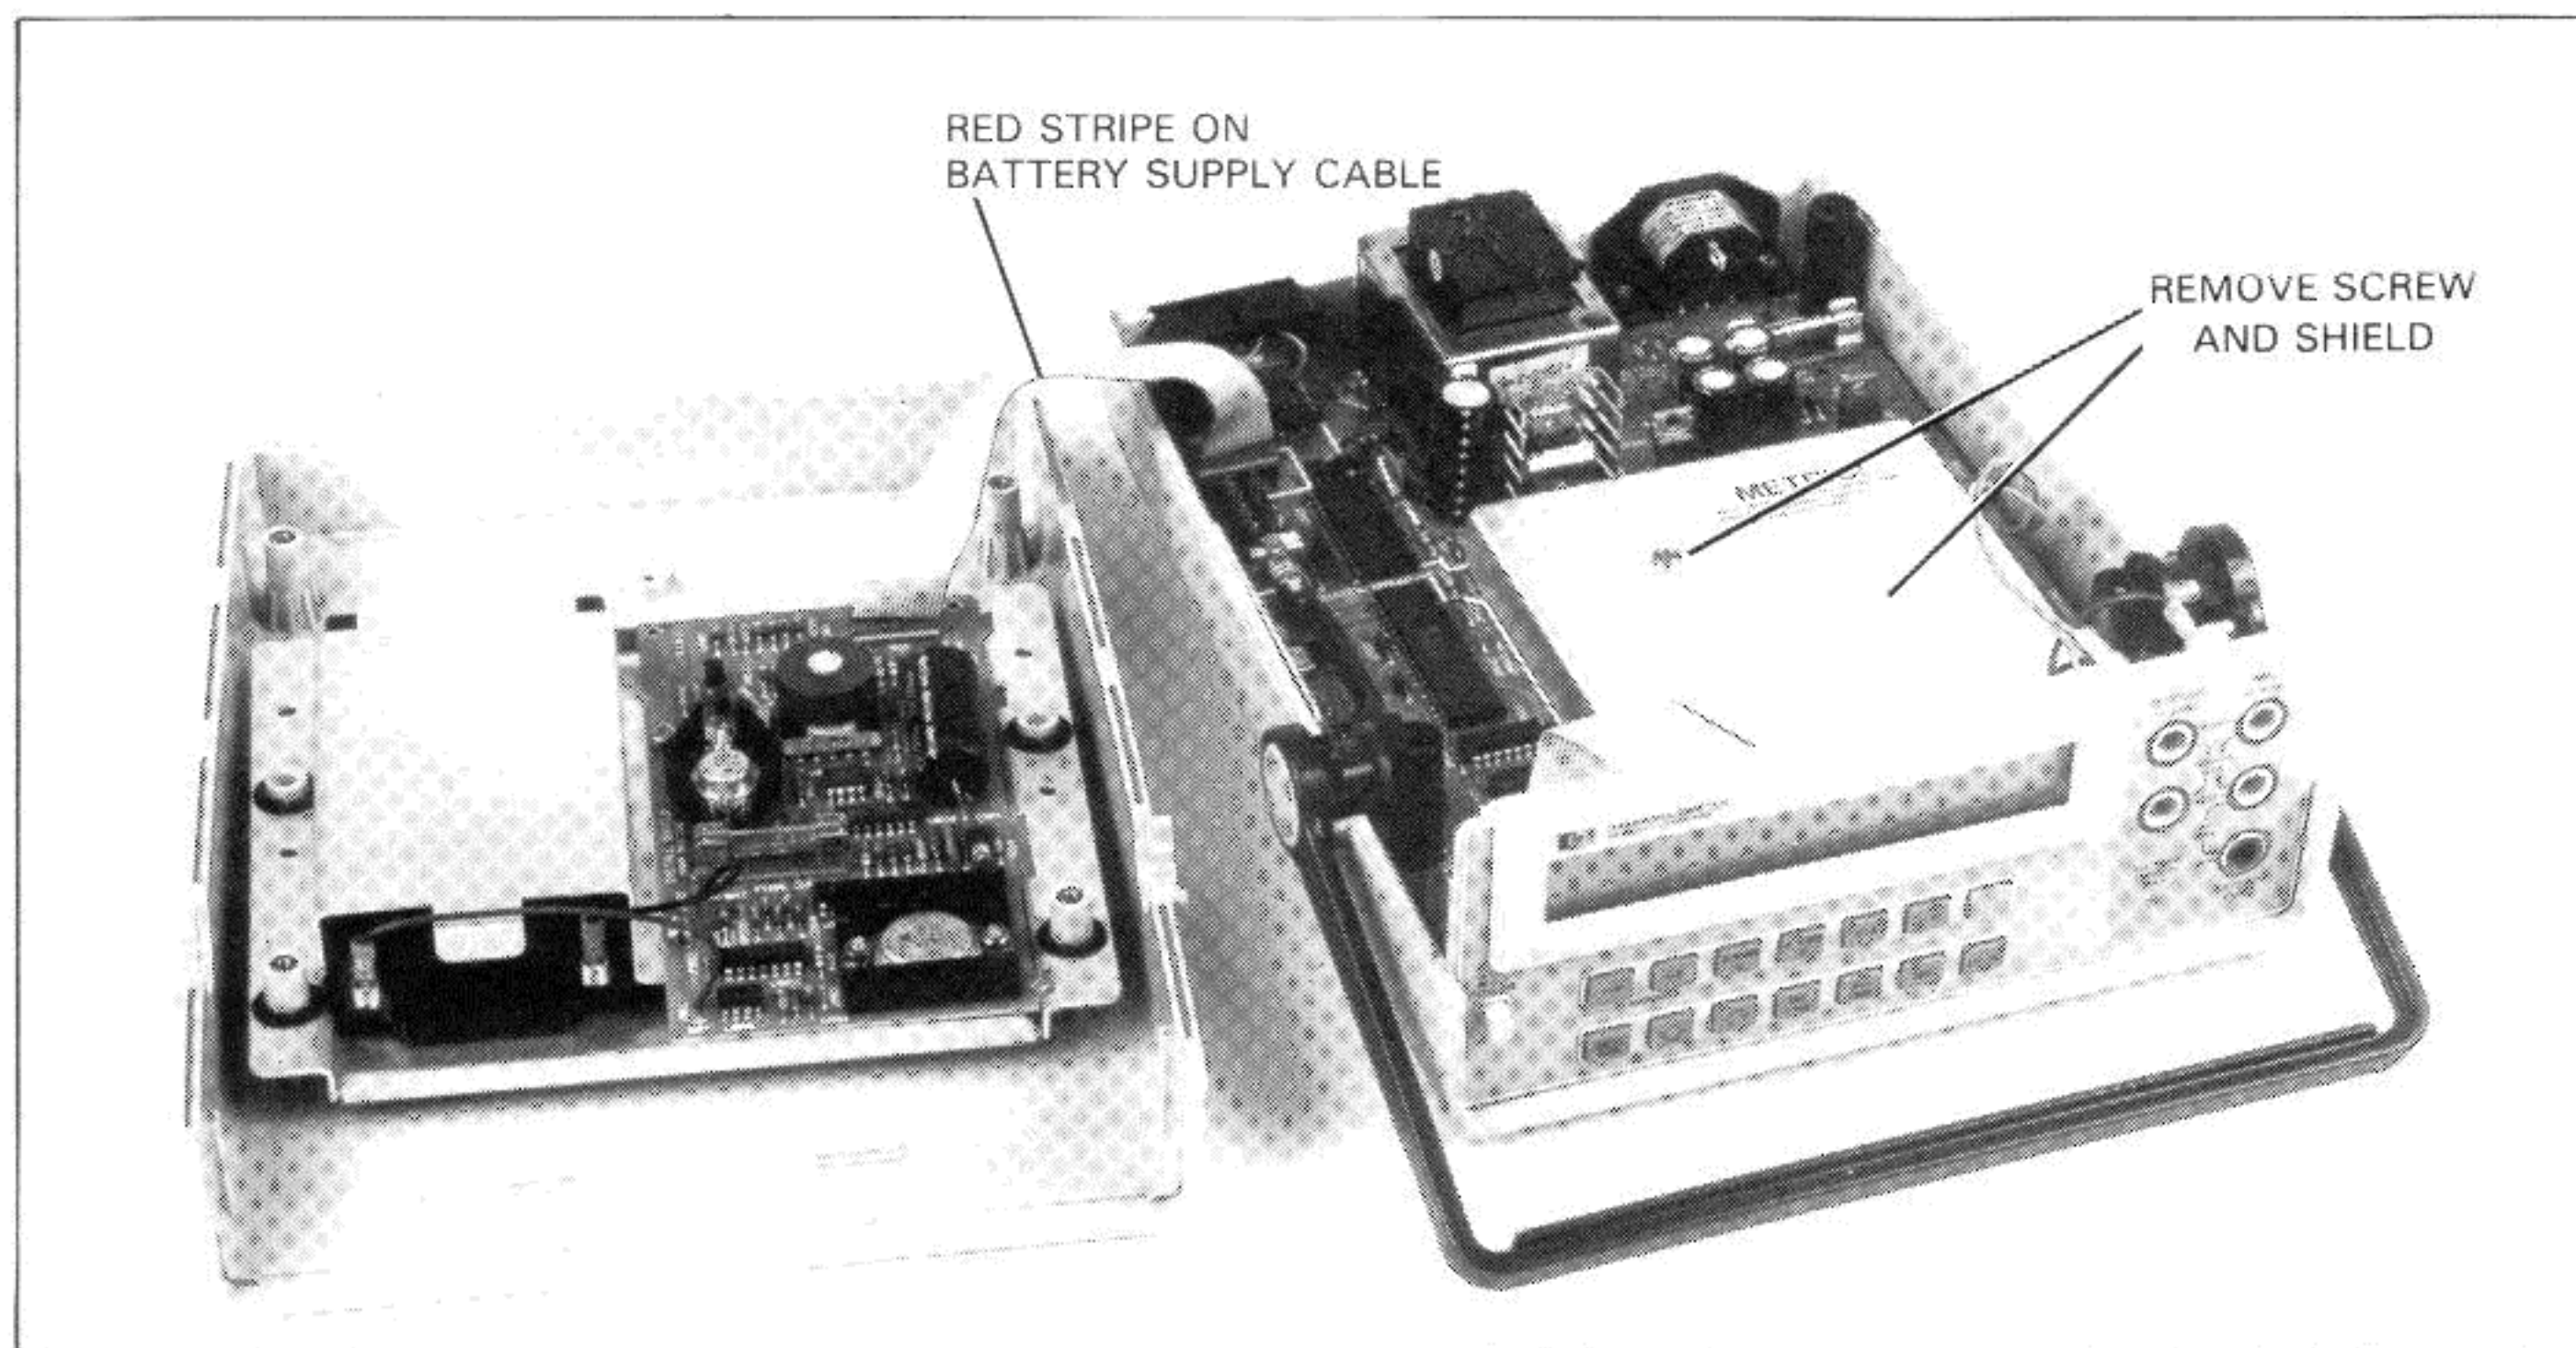

Figure 2-2. 3468A Top Cover Removed
5. If the 3468A has the optional Battery Charger (Option 001), lift the top cover assembly up approximately one inch and then place it to the left of the instrument, in an inverted position as shown in Figure 2-2. Locate the battery supply cable and note that it is plugged into the instrument with the red stripe toward the outside of the instrument case. Carefully unplug the battery supply cable from the instrument.
1. Refer to Figure 2-2 and locate the inner shield on the 3468A's main printed circuit board. Loosen and remove the mounting screw on the shield and then remove the shield, as shown in Figure 2-2.
2. Obtain the previously removed top cover assembly and set it next to the 3468A bottom assembly, as shown in Figure 2-2.